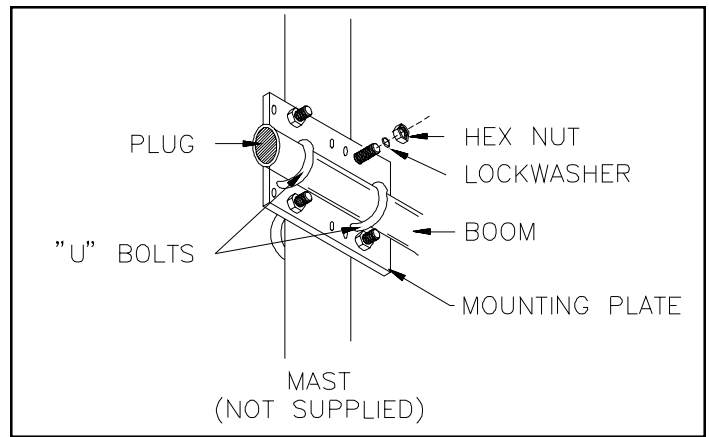

Figure 11: Mounting Clamp Kit (Part no. ASP617)
9. Mount the assembled antenna to the mast or tower leg using the provided mounting plate and hardware (see Figure 11).
- The three- or five-element yagi antennas come complete with heavy-duty mounting hardware for mounting to a mast or tower leg (see Figure 11). The antennas can be mounted vertically or horizontally, as shown. When mounted, all elements should be clear of any guy wires or other metal objects.
- The mounting plate kit, part no. ASP617, shown in Figure 11, consists of two U-bolts, four hex nuts, four lock washers and a mounting plate. It is designed to secure any combination of two intersecting pipes measuring 1 to 2-7/8 inches OD. It can also be used to mount an intersecting cross pipe measuring up to 2-7/8 inches OD to an angle iron tower leg measuring up to 2-1/2 inches or to a round tower leg measuring up to 4 inches OD.